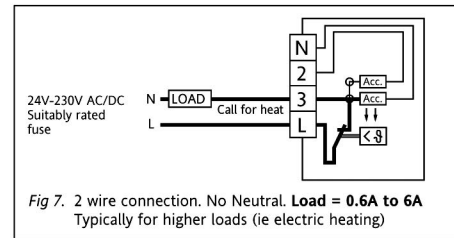

Fig 7. 2 wire connection. No Neutral. **Load = 0.6A to 6A**
*Note: Use this connection for gas CH systems, where there is no neutral wire, and follow set-up procedure. If current reading above 0.6 amps, wire as Fig 7. 2 wire connection no Neutral.*
- If reading is **ABOVE 0.6A** wire as Fig 7 (isolate electric supply before rewiring)